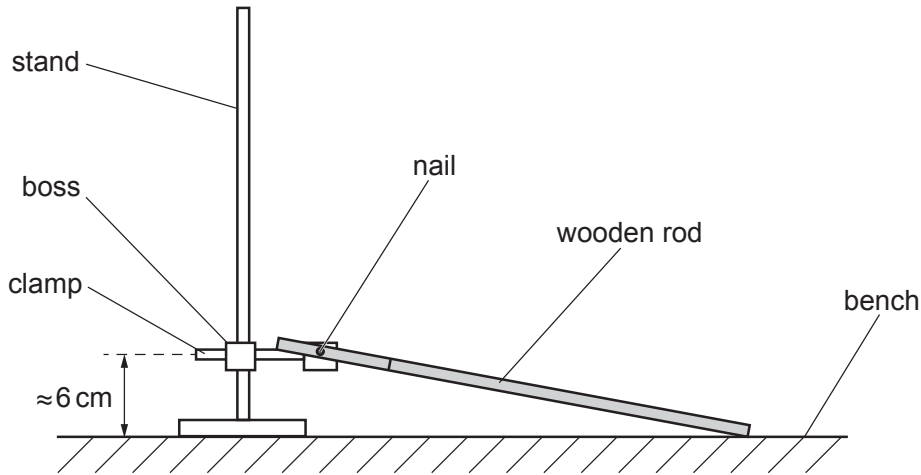

Fig. 2.1
- (a) (i) • Assemble the apparatus as shown in Fig. 2.1.